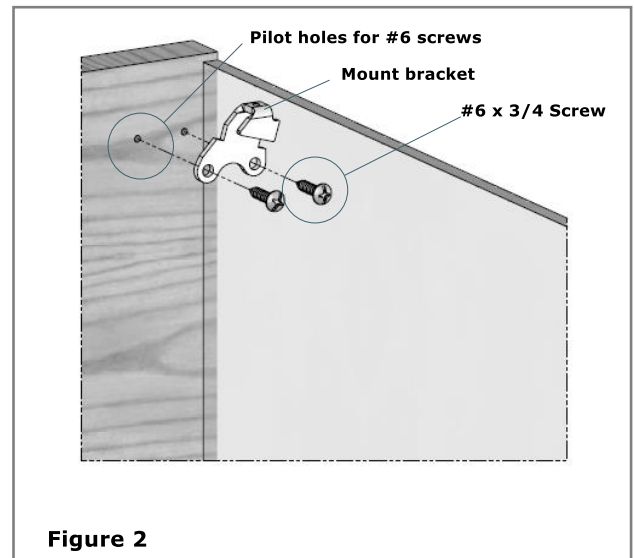

Figure 2
1. Use the reflector assembly to determine the location of the mount bracket on the cabinet end(s). Mark and drill pilot holes for the #6 x 3/4" (19mm) screws (included in the accessory package). **See Figure 2.**
3. Fasten the mount bracket(s) using the #6 x 3/4" (19mm) screws (included in the accessory package). **See Figure 2.**